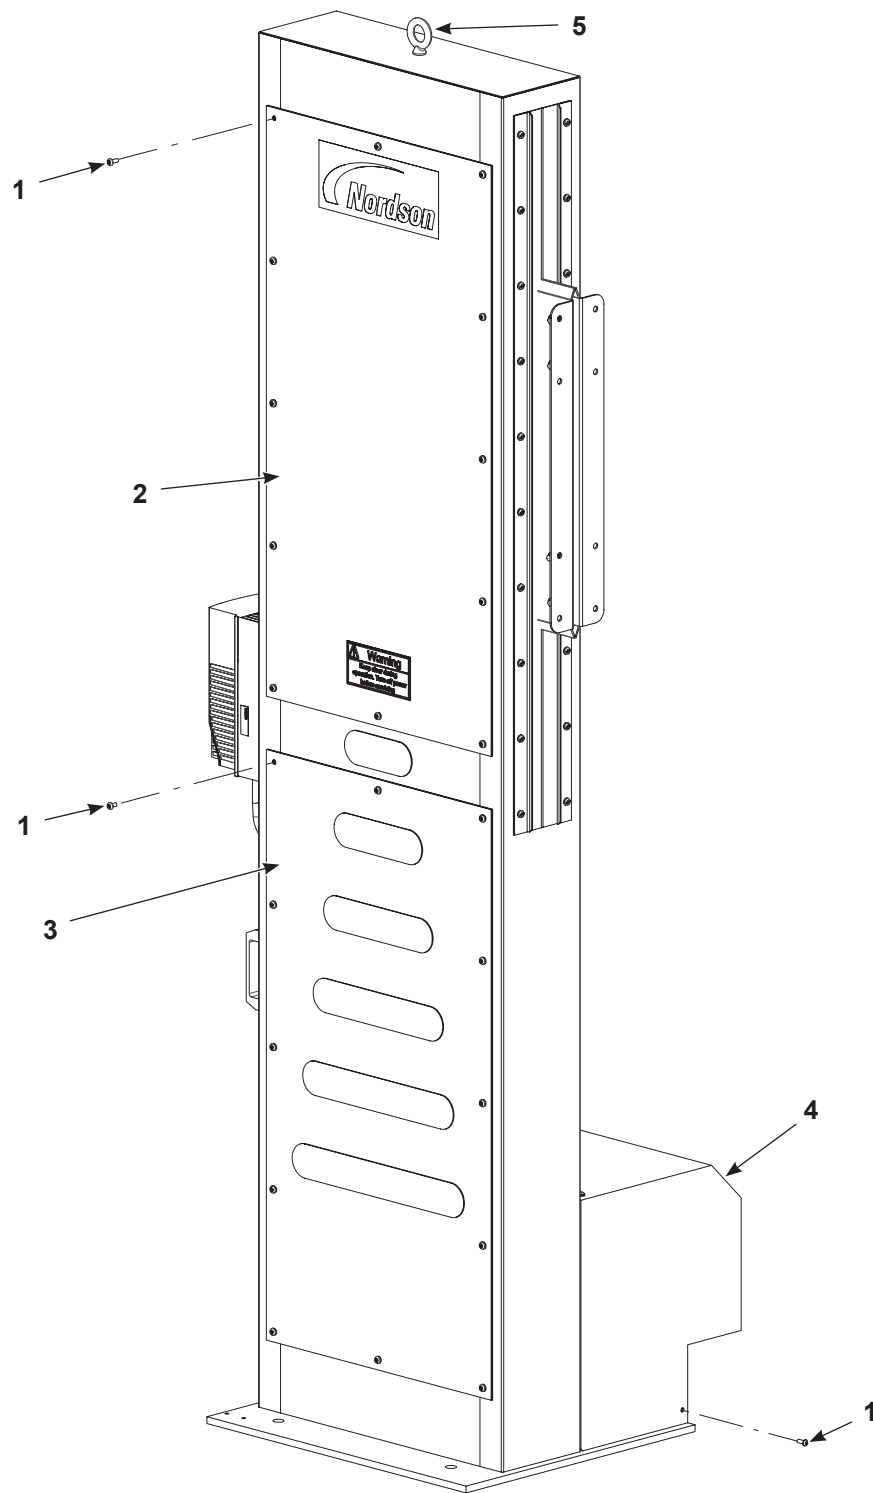

Figure 2 Removing the Covers
2. See Figure 2. Attach lifting equipment to the eye bolt (5). Carefully lift the oscillator upright and off of the shipping container.
4. Remove the screws (1) securing the access panels (2, 3) and gear motor cover (4).